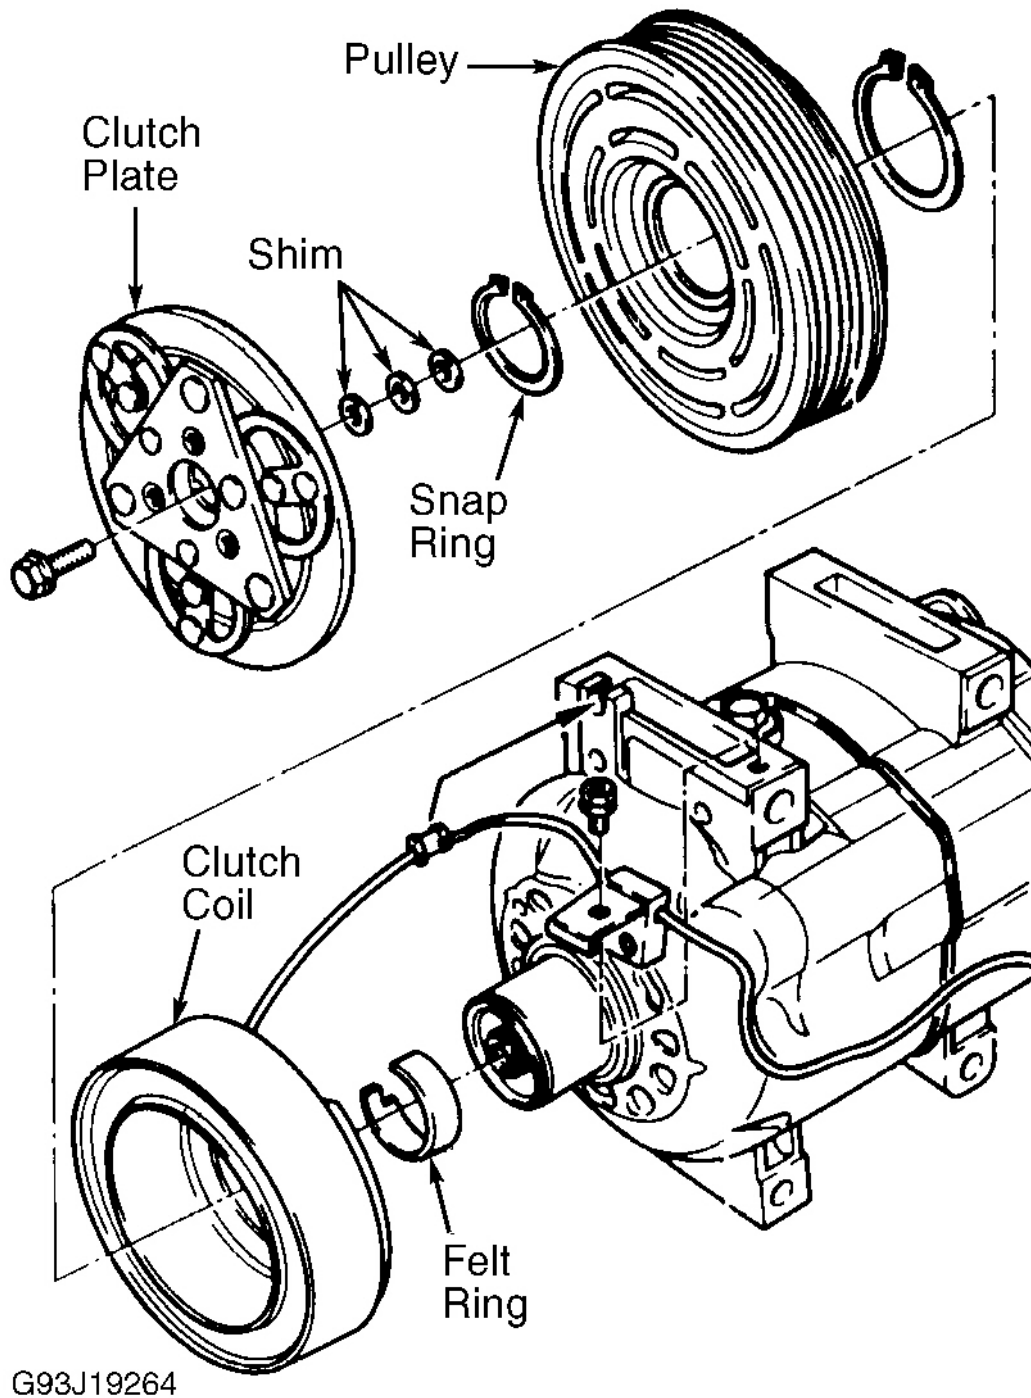

Fig. 17: Exploded View Of Compressor (Zexel 6-Cylinder)
1. Using Clutch Plate Holder (999-5596-5), hold clutch plate stationary and remove compressor shaft nut. Remove clutch plate and shim(s) using Puller (999-5597-3). Keep shims in the order in which they were removed. See **Fig. 17** .